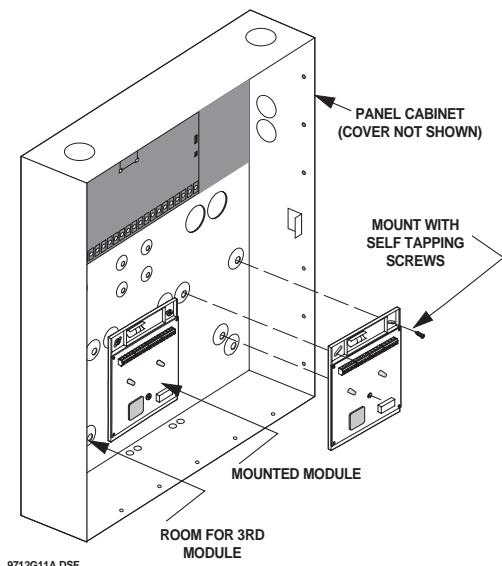

Figure 4. Mounting Module in Advent Cabinet
3. Turn the module upside down and line up the holes on the back-plate at the desired location (Figure 4).